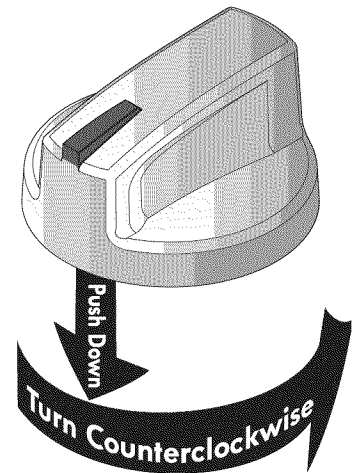

Figure 2
3. Release the knob and rotate to the **LITE** position (Figures 2 & 3). Note: All electronic surface igniters will spark at the same time. However, only the selected surface Burner will lite.
2. Push the surface control knob in and turn **counterclockwise** out of the OFF position (See Figures 2 & 3).